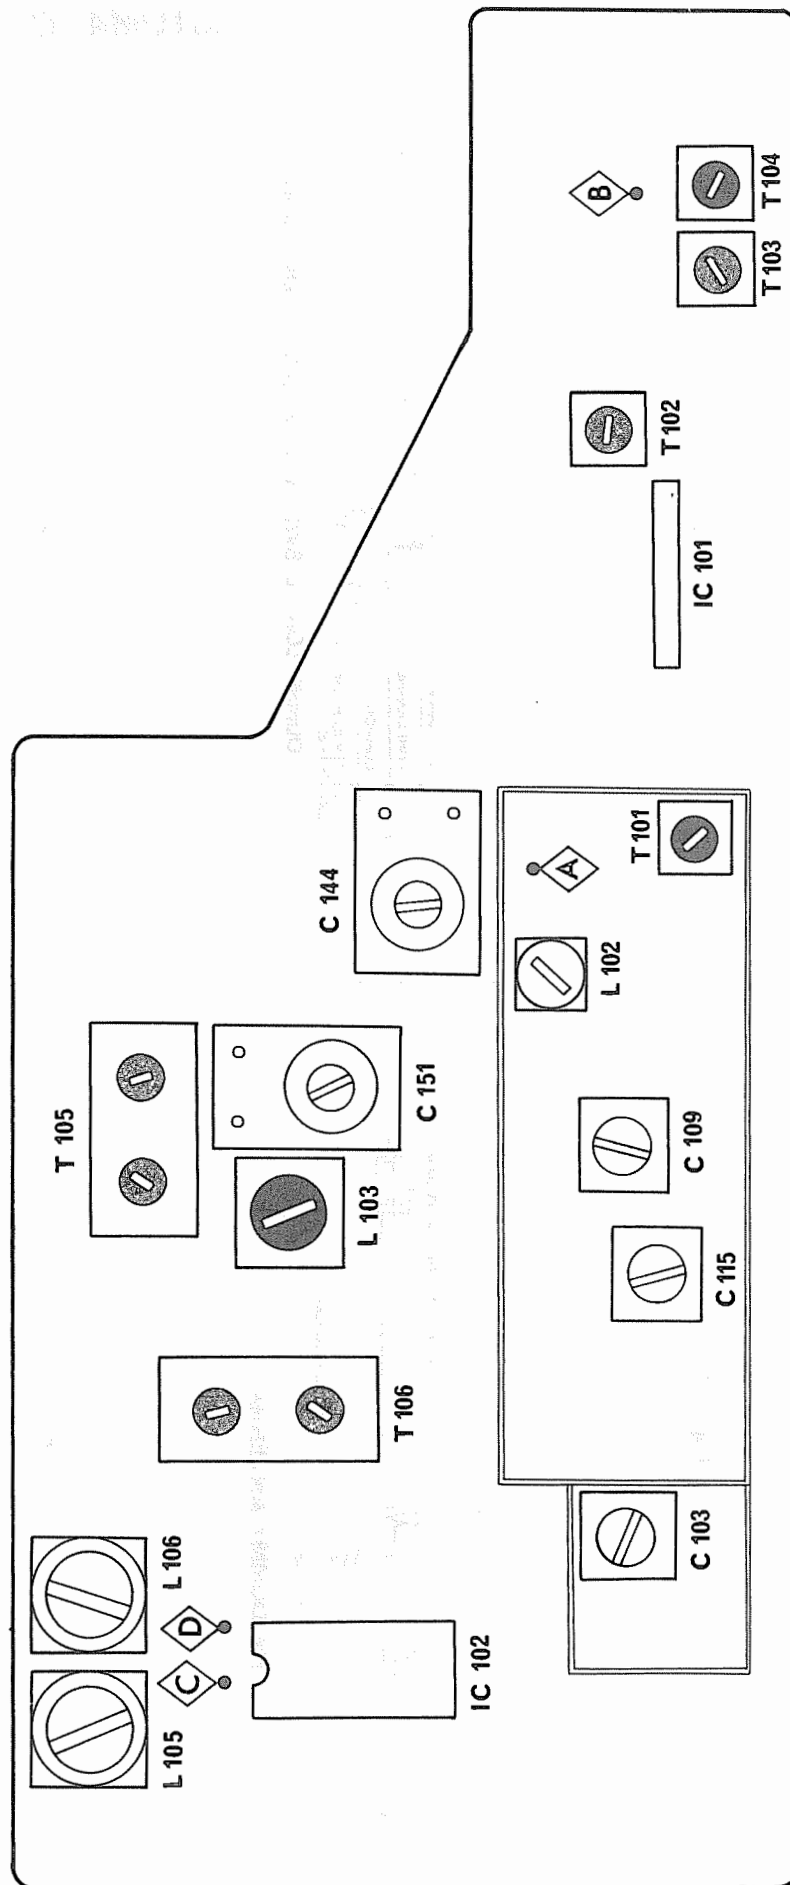

Fig. 15
6. Alignment location details; See fig. 15, 18, 19.